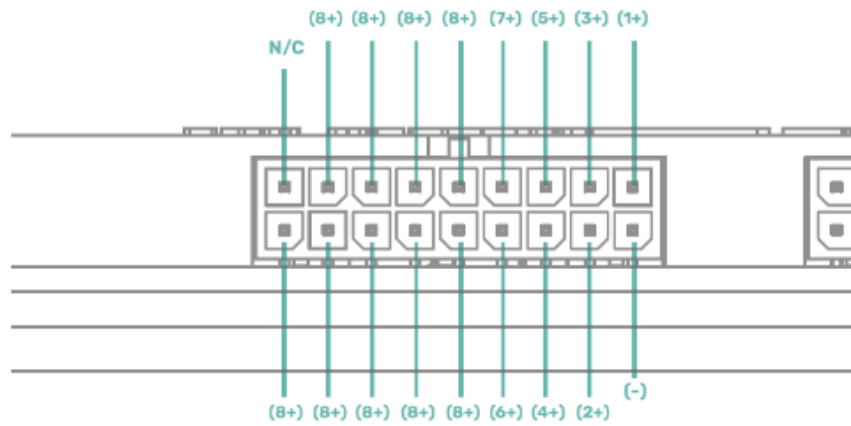

Figure 3-14 Cells connection, with e.g 8 cells in series
**NOTE:** Connection must start from the most negative cell to the most positive. In cases when cells number is less than 16, e.g 8 cells, then free cells connection wires (dedicated for 9th-16th cells) must ALL be connected to the last 8th (most positive cell). As shown in Figure 3-14 Cells connection, with e.g 8 cells in series.